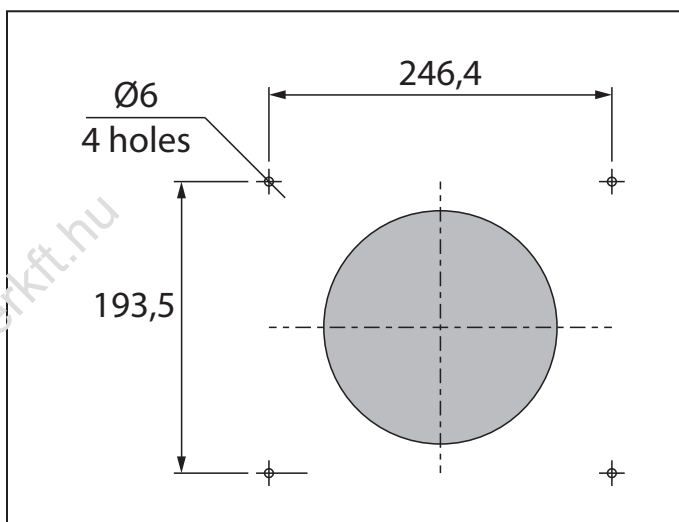

Fig. 13b
- Fig. 13b - models VENTO Ergo A50 S Pro and VENTO Ergo A50-1 S Pro. Mark the holes with the master plate from the delivery set.